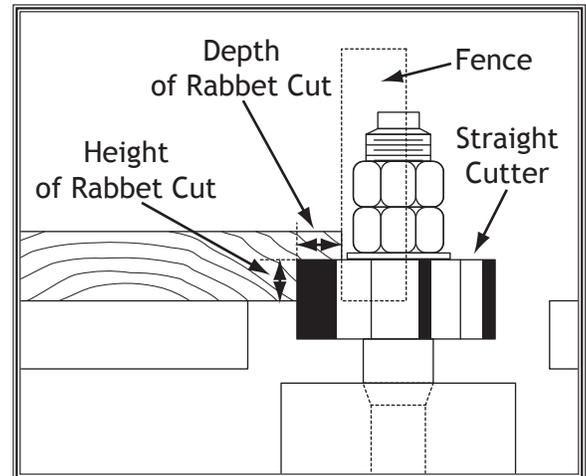

Figure 50. Shaper setup for a rabbet cut.
Your shaper can perform rabbet cuts by using a straight cutter and properly adjusting the spindle height and the fences to produce the desired L-shape cut in the workpiece (see **Figure 50**).
2. Install a straight cutter and raise it above the table a distance equal to the height of the rabbet cut (see **Figure 50**).
3. Adjust the fence boards even with one another so that the cutter is exposed to the workpiece by a distance equal to the depth of the rabbet cut (see **Figure 50**).